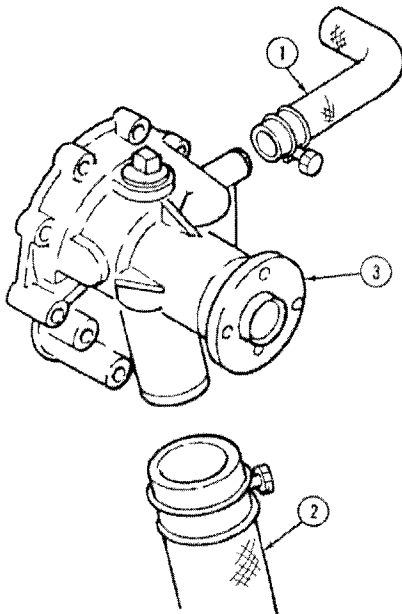

Figure 96
2. Remove the by-pass hose and lower radiator hoses from the water pump, Figure 96.